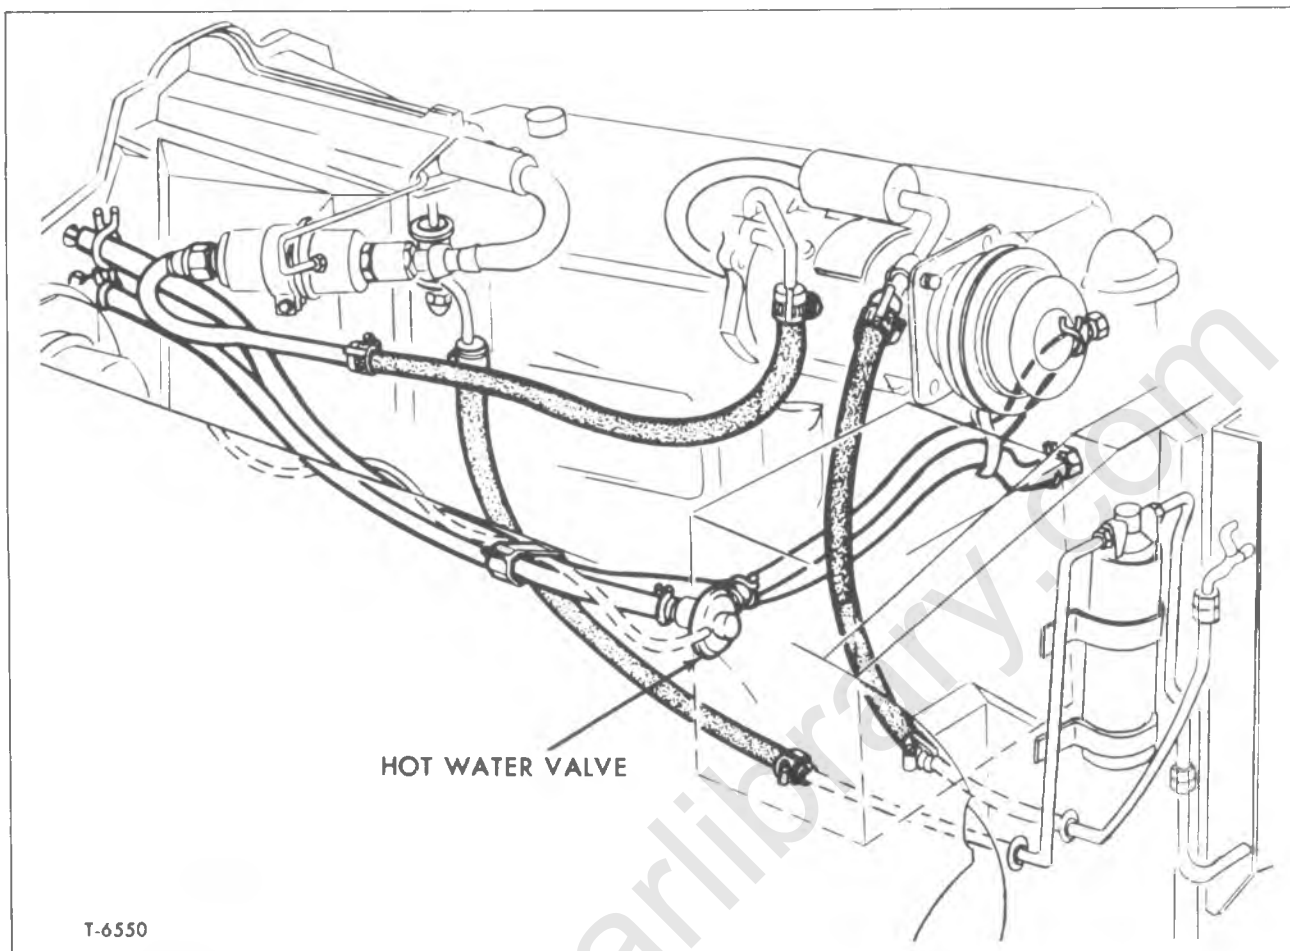

Figure 19—Air Conditioning and Heater Hose Routing
4. Disconnect heater hoses at the core tubes (fig. 19).
5. Disconnect the refrigerant lines at the P.O.A. valve outlet and the expansion valve inlet. Cap all open connections (fig. 19).
2. Remove the heater hoses from the core tubes (fig. 19).
(Refer to Figure 19)